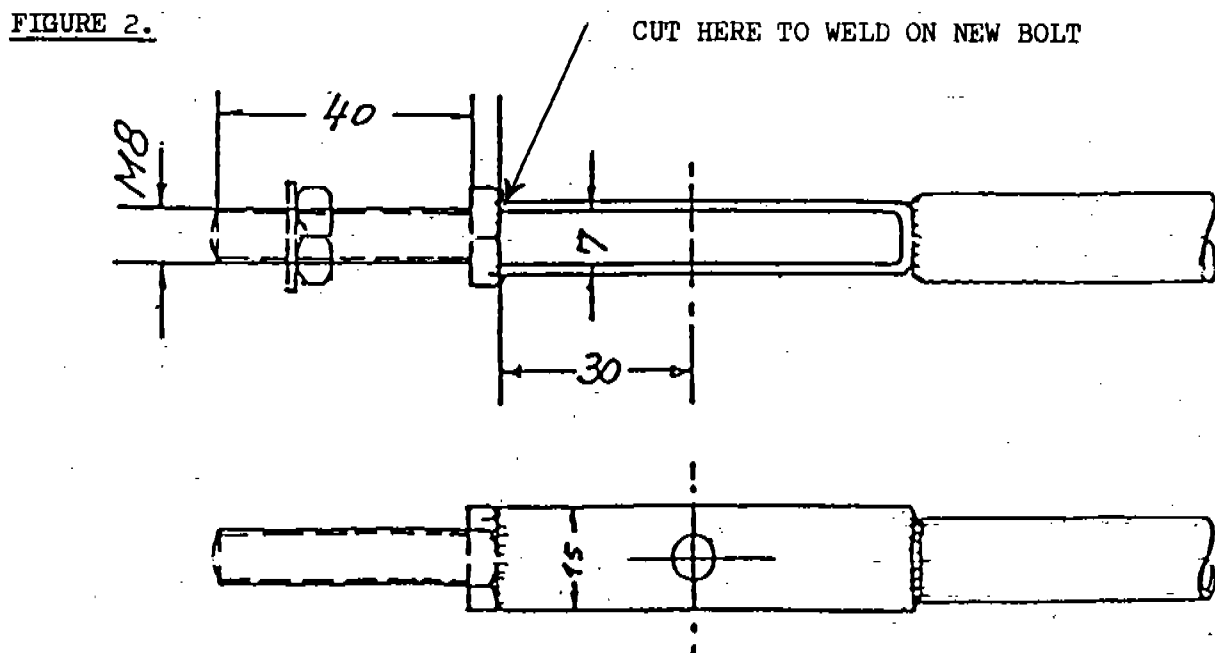

FIGURE 2.
- (a) If the bolt is bent or cracked the connecting rod must be replaced with a new one or be repaired by cutting off the old bolt at the weld and welding on a new 8mm bolt. (Fig. 2).